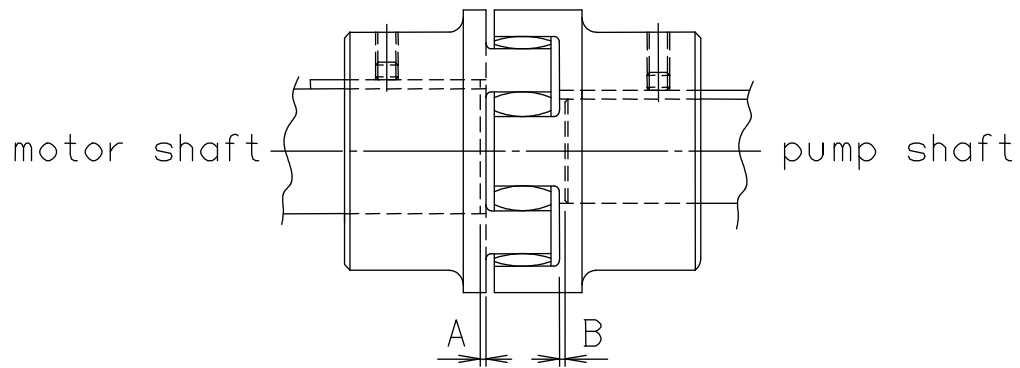

Fig.3 The installation figure of shaft - coupling
- a) Installs ⑤ coupling (of the pump side) to ① pump and fixes ④ set screw.(As for the installation position of ⑤ coupling, refer to figure 3 and table 5.)
- b) At this time, put the spider in ⑤ coupling of the pump side.
- c) Connect ⑤ coupling not to hit the nail of each couplings, while raising the cart and changing the direction of ⑤ coupling.
- d) Fix ① pump with the ② Hexagon head bolts. The tightening torque is as in table 6.
- f) Make sure to install the cover of the check window of the ⑥ bell housing before operation.